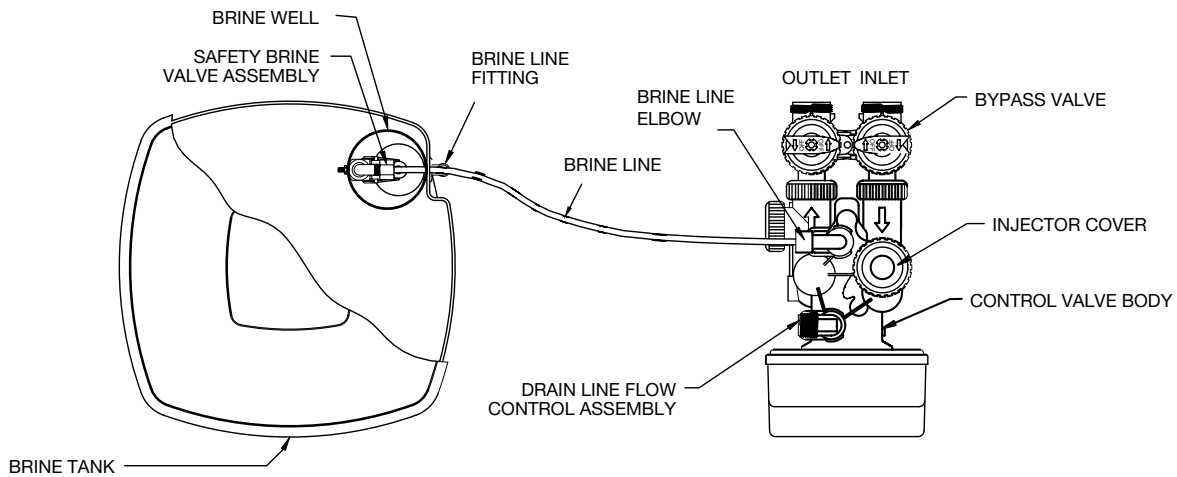

Figure 3. Softener and Brine Tank Assembly, Top View
Step 10) Install the overflow line to the brine tank overflow fitting (Figure 3). The overflow discharge must be lower than the overflow fitting. DO NOT connect overflow line with valve drain line.